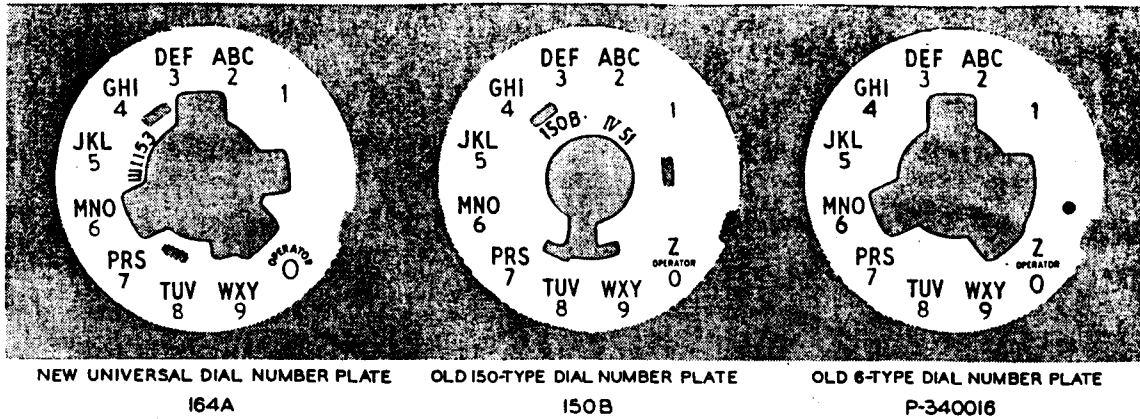

Fig. 4 — Number Plates
2.02 The 164A number plate has been made available for use with 5- and 6-type dials. It is intended for general station use. A blank number plate 164B (see Table C) is available for use with coin collectors. Fig. 4 shows a comparison of universal number plate 164A and 150B and P-340016 number plates.